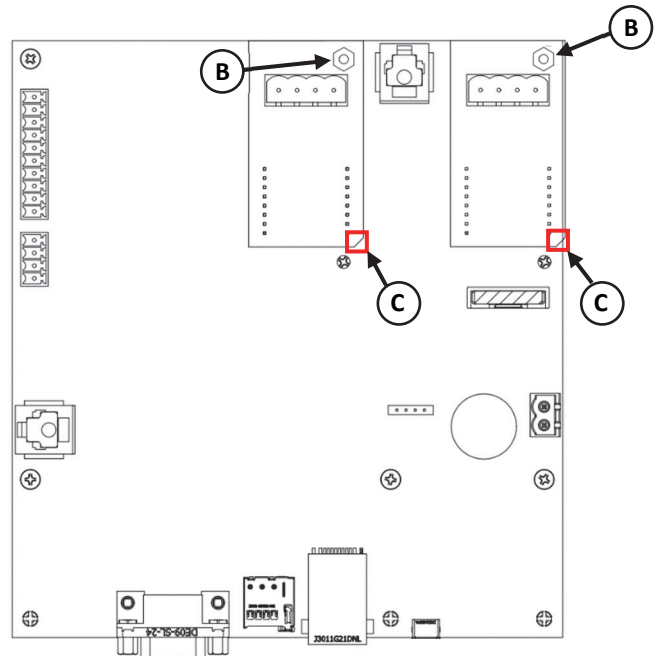

Figure 2.0
4. Place the option board into one of the desired slots, aligning the **corner board notch**, marked “C”, with the notch markings on the MCU (Figure 2.0).
6. Install (1) grounding nut marked to secure the option board using the nuts marked “B” (Figure 2.0).